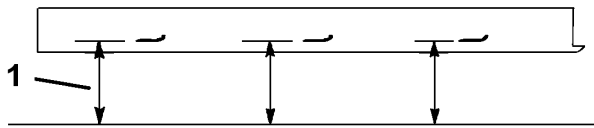

Figure 47
- Measure from a level surface to the cutting edge, position A, of the blades (Figure 47). Note this dimension.